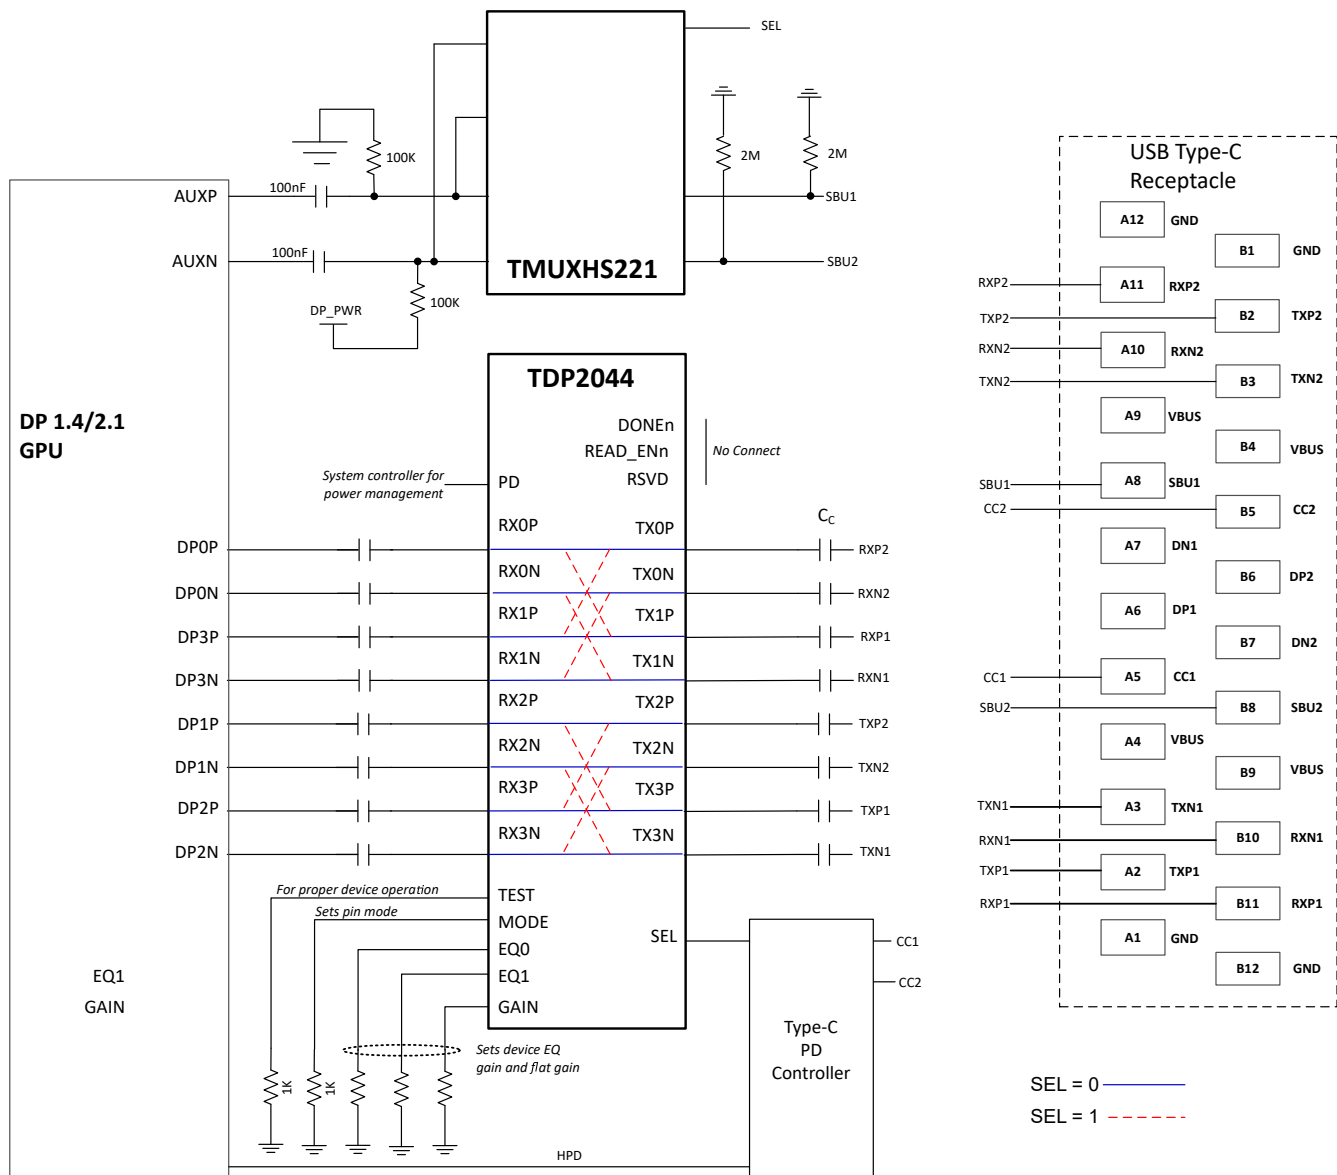

Figure 7-2. Simplified Schematic for USB-C Alternate Mode Source Application
The TDP2044 provides signal conditioning for four DP mainlink channels along with 4:4 cross-point (channel re-orientation) function. The device is a linear redriver which is agnostic to DP link training. The DP link training negotiation between a display source and sink stays effective through the device. The redriver becomes part of the electrical channel along with passive traces, cables, and other channel elements, resulting in optimum source and sink parameters for best electrical link. Figure 7-2 shows a simplified schematic for DisplayPort application using TDP2044 to implement USB Type-C DP alternate mode in a source application. A USB power delivery (PD) device control the cross-point mux polarity signal SEL according to USB Type-C cable plug position.
DisplayPort side-band signals AUXp,n and HPD are bypassed. An external mux such as TMUXHS221 can provide flipping functions for SBU signals as illustrated in 図 7-2. An inverted HPD signal can be used to control the device standby operation using the PD pin; however appropriate filtering out of HPD interrupt signals must be provisioned.